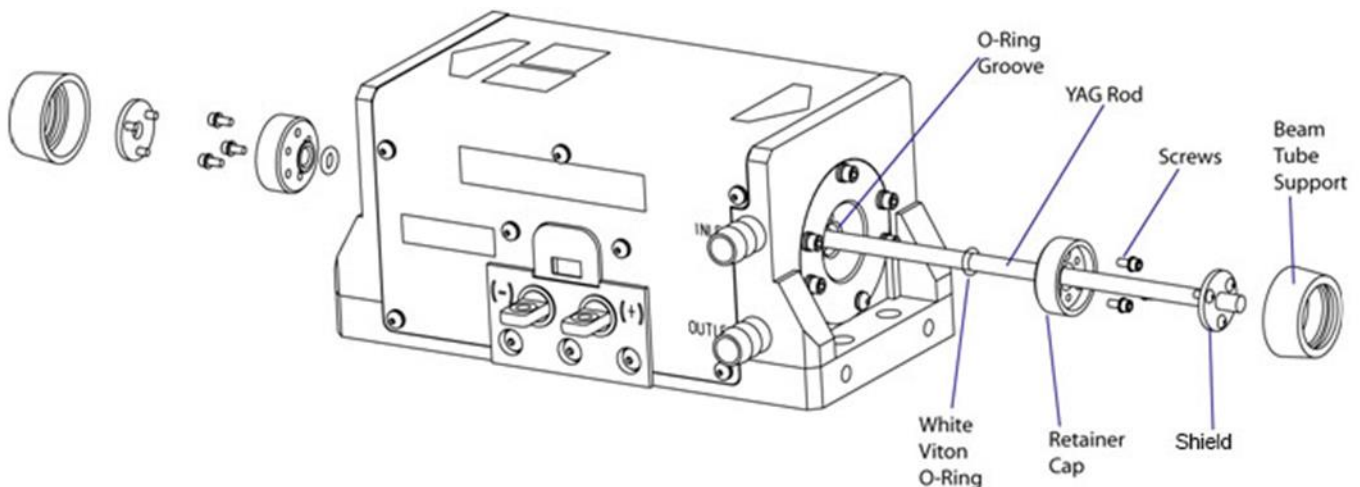

Figure 5-3 Retainer Cap with Shield Rod Replacement Drawing
16. Fasten each of the two inserts to their endplates with five #4 sized 3/8" SHC Screws and one #4 sized 3/8" BHC Screw that goes in the slotted hole, shown in Figure 5-3, of each insert.
- b. For the configuration shown in Figure 5-3, remove the shield and then the retainer cap